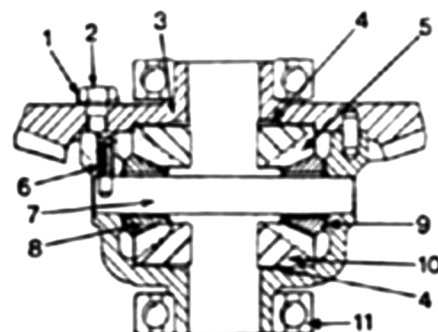
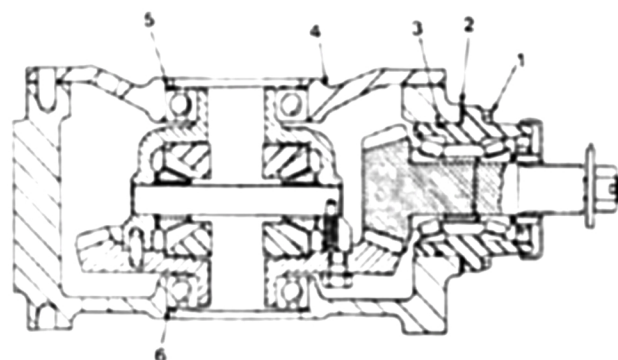
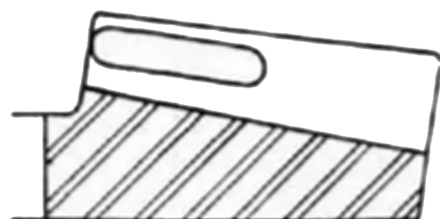

Fig. 11 - Sectional view of bevel gear and differential assembly removed from differential housing.
Fig. 10 - Sectional view of bevel drive gears and differential assembly removed from front drive axle.
Fig. 17 - View showing correct tooth contact pattern on bevel gear. Refer to text.
To disassemble the center section, refer to Fig. 10 and remove the four cap screws (1). Withdraw the bevel drive pinion and bearing assembly, taking care not to lose any shims (2). Remove cover (4) and shims (5), then lift bevel gear and differential assembly and shims (6) from differential housing. Straighten lock plates (1 - Fig. 11), remove cap screws (2) and lift off bevel gear (3). Remove thrust washer (4) and side gear (5). Remove pinion shaft retaining dowel screw (6), push out differential pinion shaft (7) and remove differential pinion gears (8) and thrust washers (9). Lift out side gear (10) and thrust washer (4). Remove bearings (11) from bevel gear and differential case. Clean all differential parts and inspect for excessive wear or other damage. Bushings are renewable in differential pinion gears. Press new bushings
To adjust the bevel gear backlash, lay differential housing on its left side and place a selected shim pack (6 - Fig. 10) of approximately 0.055 inch thickness in bearing bore. Install bevel gear and differential assembly, then install bevel drive pinion assembly with the previously determined shim pack (2). Secure with cap screws (1). Mount a dial indicator on the differential housing so the actuator tip of indicator is against bevel gear tooth as close to the outside as possible. Hold bevel pinion stationary and rock bevel gear back and forth, noting indicator reading. Rotate bevel gear and recheck backlash every 90 degrees. Backlash should be 0.004-0.008 inch. If not, add or remove shims (6) as necessary to correct the backlash. Removing shims will increase backlash.
Paint both sides of some bevel gear teeth with yellow ochre or red lead. Rotate pinion until it is in mesh with the painted teeth and a good impression of tooth contact is obtained. Tooth contact pattern on bevel gear should be the same as shown in Fig. 17. If necessary, add or remove shims (6 - Fig. 10) under bevel gear bearing to raise or lower tooth contact pattern. To move tooth contact pattern toward the heel (outer end) or toe (inner end) add or remove shims (2) to move pinion in or out.
Install differential housing cover (4 - Fig. 10) with new gasket, but without shims (5). Using a feeler gage, measure gap between right carrier bearing and cover. Select a shim pack equal to the measured gap plus 0.004 inch. Install shim pack between right carrier bearing and the differential cover.